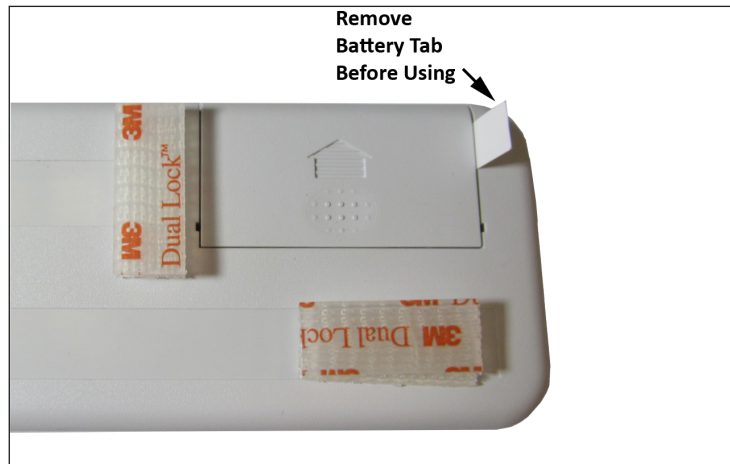

Figure 2 – Remove Battery Protection Tab
2. Locate the battery door and find the battery protection tab (Figure 2).